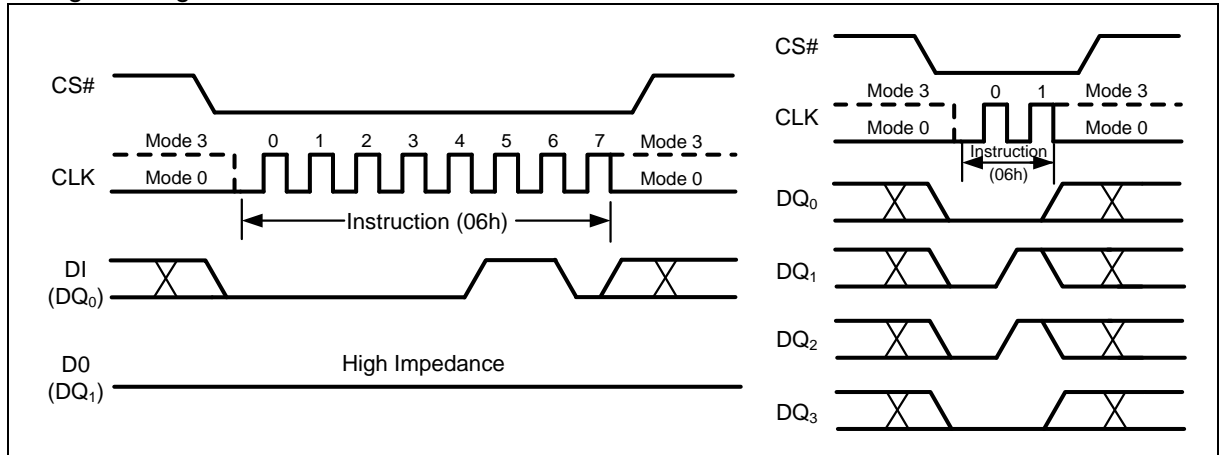

Figure 7 Write Enable Instruction for SPI Mode (left) or QPI Mode (right)
Instructions vary in length from a single byte to several bytes and may be followed by address bytes, data bytes, dummy bytes (don't care), and in some cases, a combination. Instructions are completed with the rising edge of edge CS#. Clock relative timing diagrams for each instruction are included in Figure 7 through Figure 72. All read instructions can be completed after any clocked bit. However, all instructions that Write, Program or Erase must complete on a byte boundary (CS# driven high after a full 8-bits have been clocked) otherwise the instruction will be ignored. This feature further protects the device from inadvertent writes. Additionally, while the memory is being programmed or erased, or when the Status Register is being written, all instructions except for Read Status Register will be ignored until the program or erase cycle has completed.
The Write Enable (WREN) instruction (Figure 7) sets the Write Enable Latch (WEL) bit in the Status Register to a 1. The WEL bit must be set prior to every Page Program, Quad Page Program, Sector Erase, Block Erase, Chip Erase, Write Status Register and Erase/Program Security Sectors instruction. The Write Enable (WREN) instruction is entered by driving CS# low, shifting the instruction code “06h” into the Data Input (DI) pin on the rising edge of CLK, and then driving CS# high.